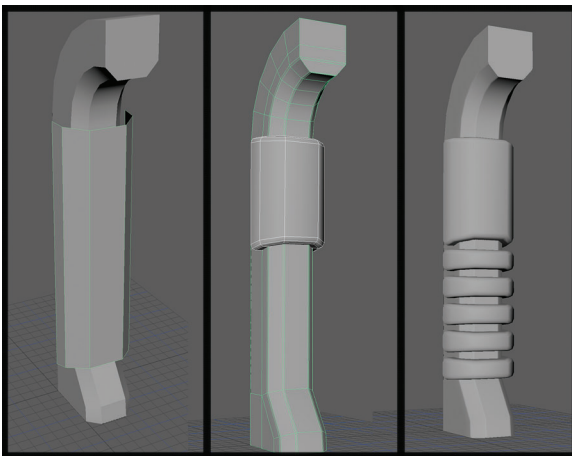

FIGURE 1.54 Extra detail on the walls.
Step 7: Wall frame detail. Grab the faces in the front middle part of the model and hold down Shift + right mouse button and chose Duplicate Faces. Set the Local Translate Z to 16. Grab the bottom vertices and drag them up. Bridge the bottom edges and bevel the primary turning edges. This will give us extra volume; you can create additional ones to make the model more complex (Figure 1.54). Name this model wall_frame_01.